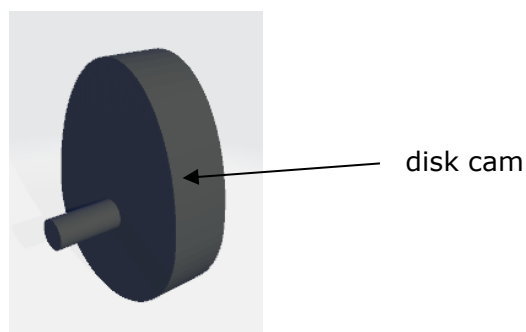

Figure 6
23. Figure 6 shows a disk cam which is attached to the rear axle of a toy truck. The cam rotates to move a flat follower up and down through a slider.